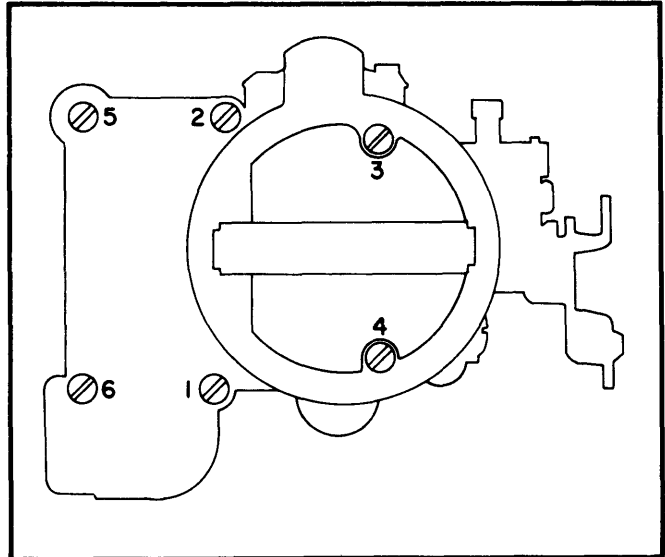

Fig. 8 Air Horn Tightening Sequence
4) Use two tapered head screws for mounting and locating diaphragm bracket. Install and tighten air horn screws evenly and in sequence shown in Fig. 8.